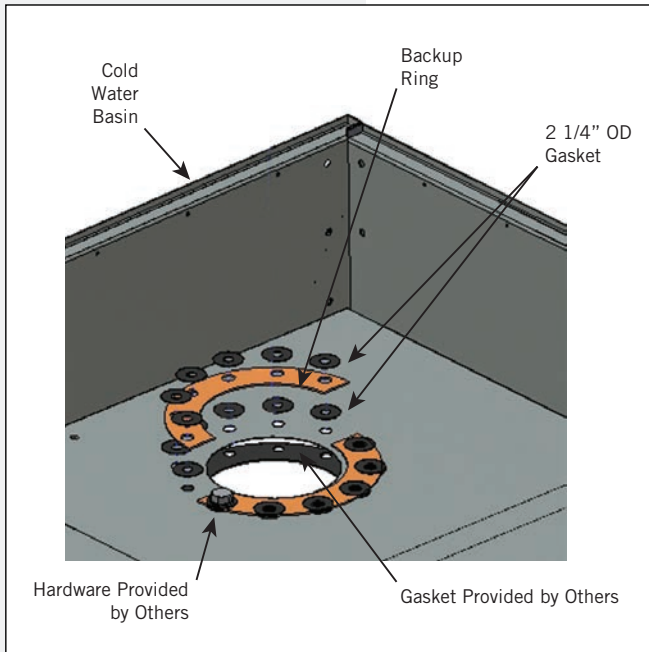

Figure 19. Bottom Water Outlet
1. The bottom connection seal, **Figure 19**, is typical for all bottom remote sump outlets, and bypasses. Flange mounting hardware and gasket to be supplied by others.